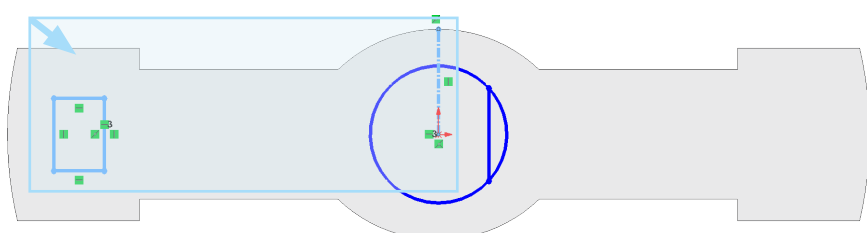

Fig. 17
Step 14. Drag a **selection** to **right** to select all of **rectangle and vertical centerline**, Fig. 17.